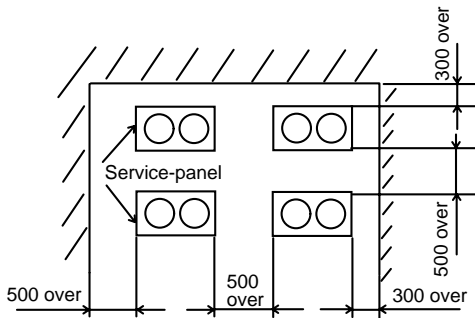

Fig 5
(2) Relation of unit when many set up unit. (Fig 5,6,7)